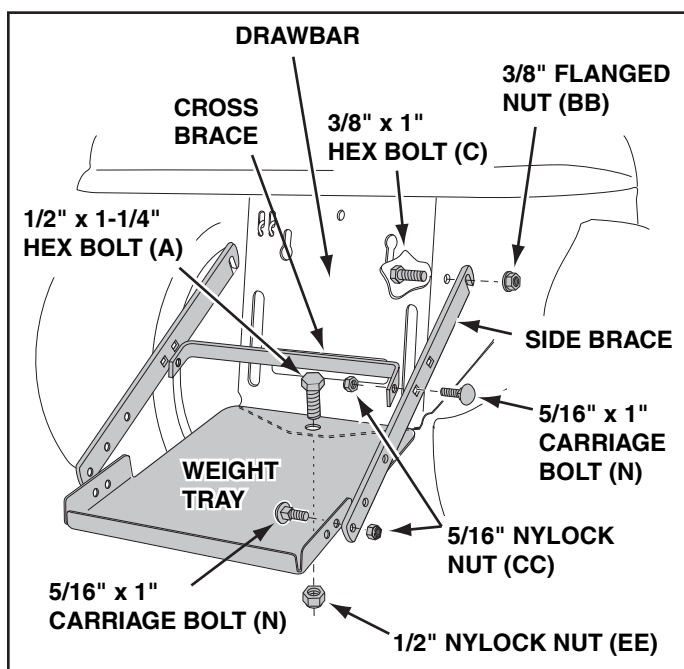

FIGURE 59
STEP 61: (SEE FIGURE 59)
- Locate the **upper empty hole** in the right side of the tractor's draw bar. Insert a 3/8" x 1" hex bolt (C) from inside the tractor frame through the hole. Hook the slotted end of a side brace down onto the bolt, then assemble a 3/8" flanged nut (BB) onto the bolt making only **finger tight**. Repeat on left side.
- Place the weight tray on top of the tractor hitch and fasten the side braces to the **front hole** in the side of the tray using two 5/16" x 1" carriage bolts (N) and 5/16" nylock nuts (CC). **Do not tighten yet.**
- Fasten the weight tray to the tractor hitch using a 1/2" x 1-1/4" hex bolt (A) and a 1/2" nylock nut (EE). **Do not tighten yet.**
- Fasten the cross brace to the side braces using two 5/16" x 1" carriage bolts (N) and 5/16" nylock nuts (CC). **Tighten all loose bolts at this time.**